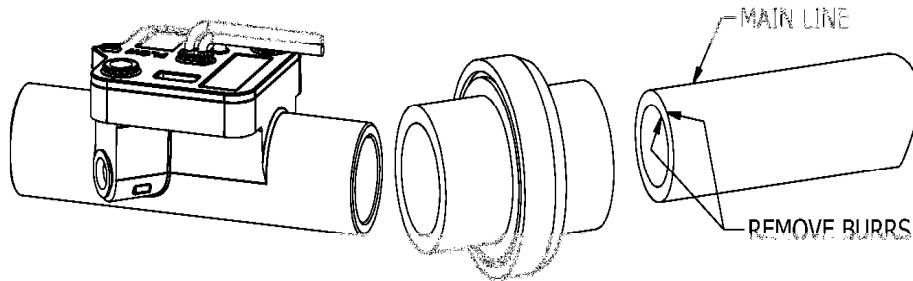

Figure 4
1. Remove all I.D and O.D edge burrs on the pipe ends. (see Figure 4)